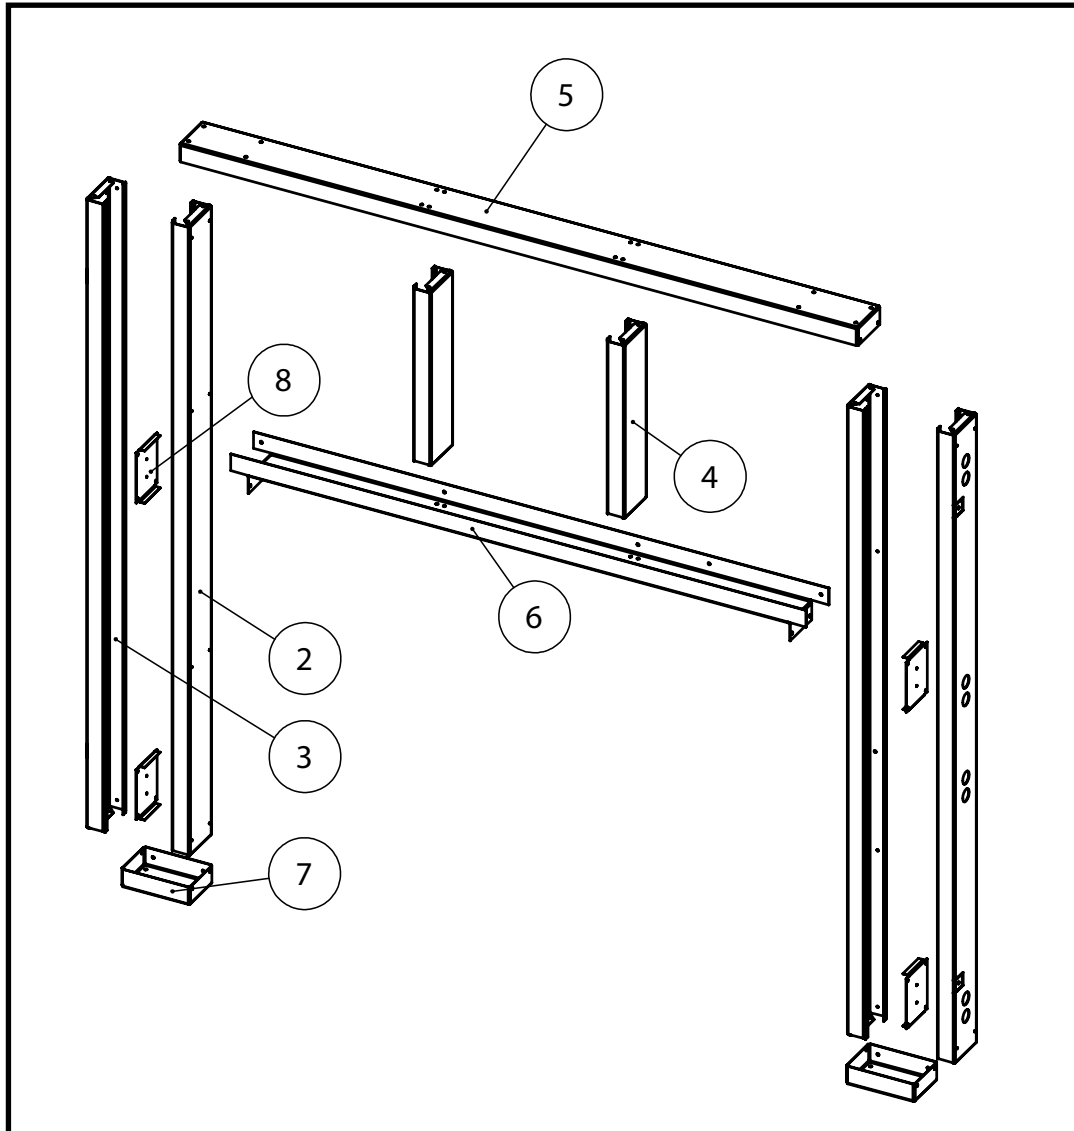

Figure 15: TC36ST Steel frame parts.
1. Top Frame Assembly (Figure 15)